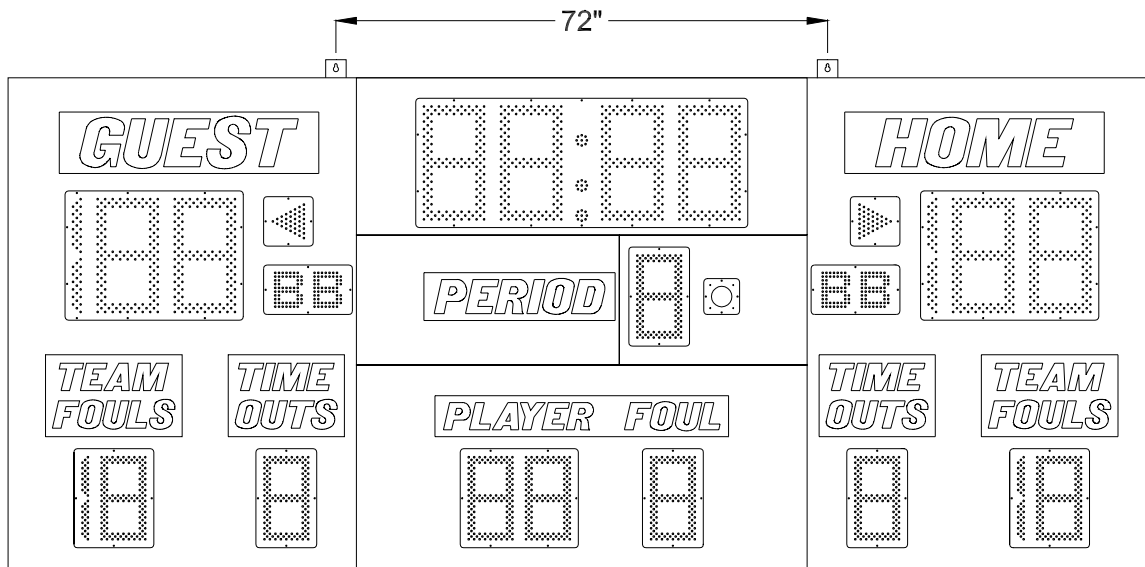

Figure 1 Model 2770 Mounting Points
3. Insert lag bolts or other suitable fasteners through the hanger brackets and fasten the scoreboard to the wall. Figure 1 shows the mounting point locations for model 2770.